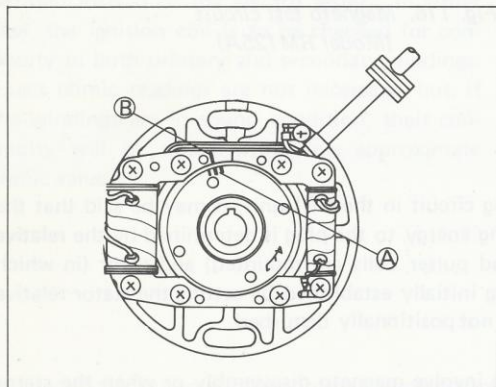
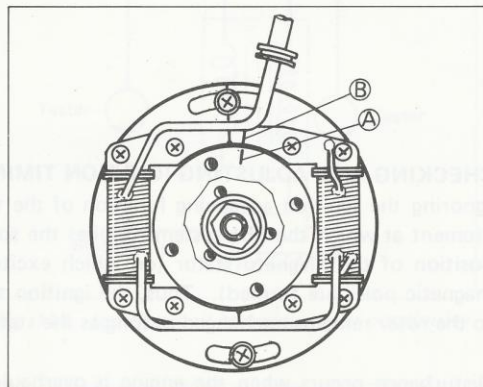

Fig. 118. Ignition timing marks
Fig. 119. Ignition timing marks
- 3) Under this condition, see if rotor mark (A) and stator mark (B) are perfectly in match as shown in Fig. 118 (for Models RM100A, RM125M and RM125S) or Fig. 119 (for Model RM125A); if they are, then the magneto is set for the specified ignition timing.